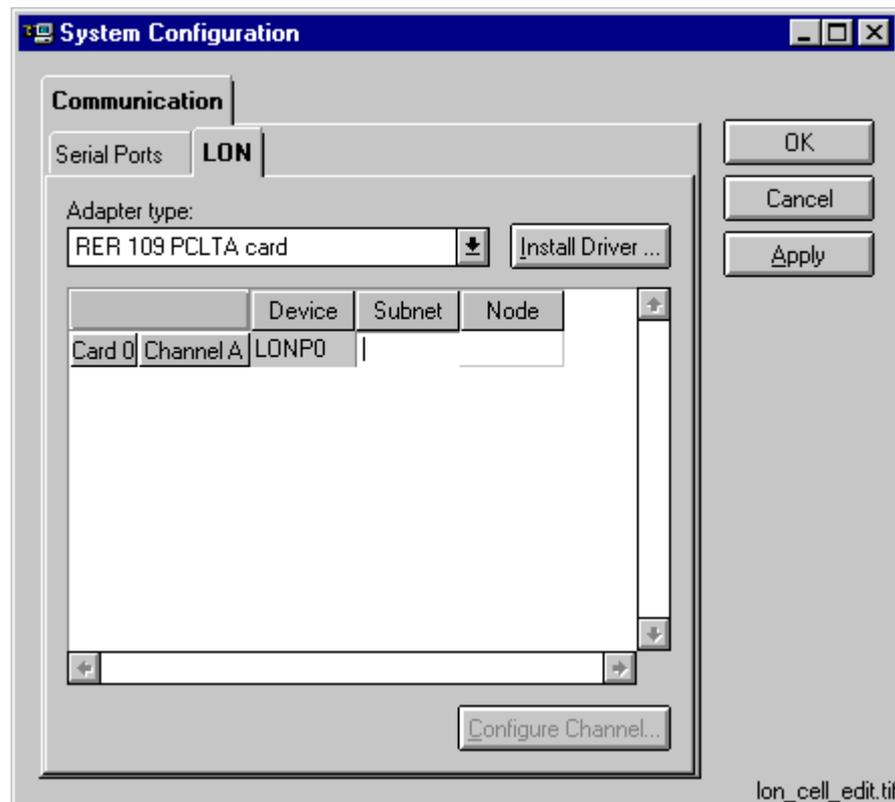

Fig. 4.5.4.7.-1 Subnet cell of channel A is activated
1. Click with the mouse on the intended channel's Subnet cell to activate it, figure 4.5.4.7.-1.